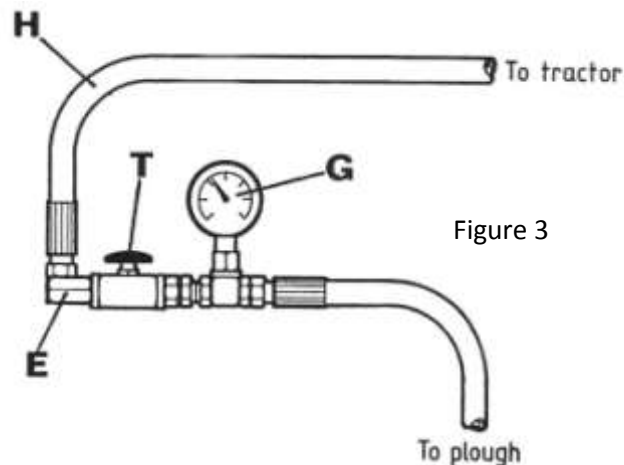

Figure 3
- 1) Connect hydraulics hose 'H' (Fig. 3) to the tractor and release the pressure.
Setting Of Hydraulic Pressure (Fig. 3)